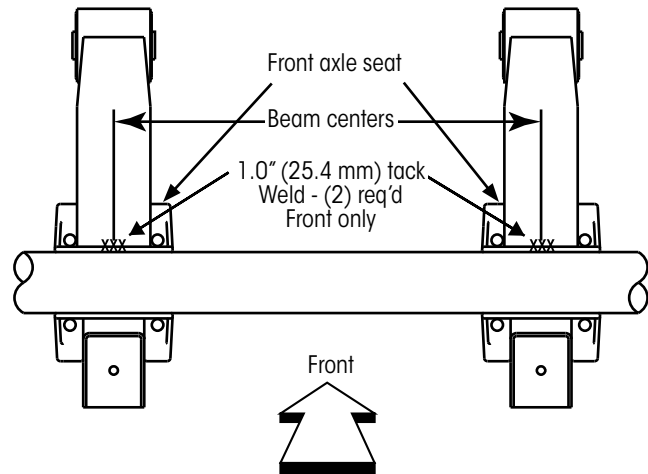

Figure 3: Locations of tack weld
3. Place a 1 inch (25.4 mm) long **tack weld** (*Figure 3*) on the front axle seat in the center of each suspension beam/axle connection, one tack weld is required per suspension beam.